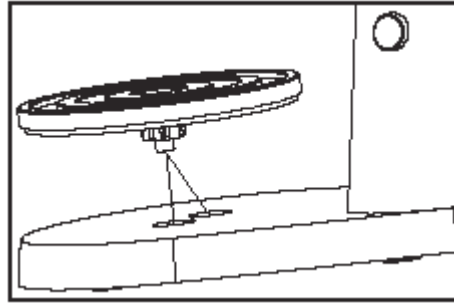

Figure 2: Matching the turntable to the appropriate slot.
4. Place the turntable in the hole with the picture matching the bowl that will be used, as illustrated in Figure 2.